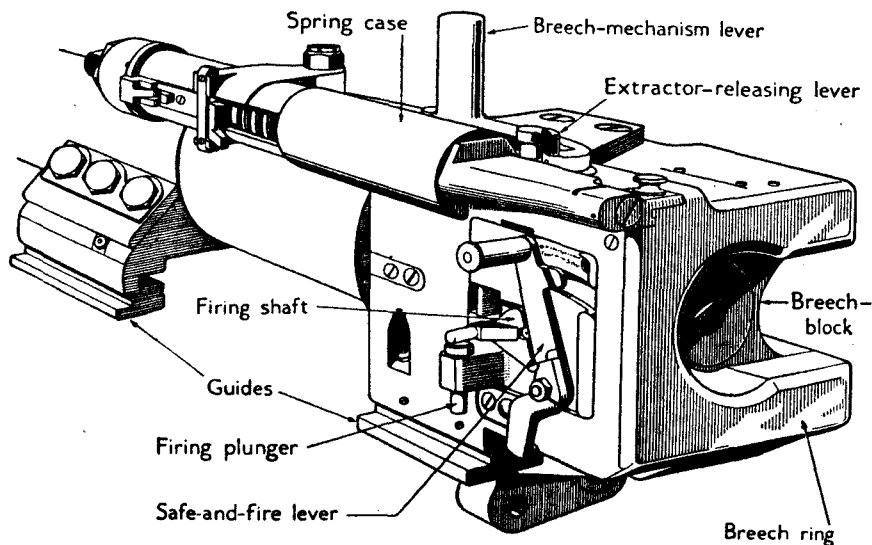

Figure 66.—Breech of 5-cm Pak.
(1) *Safety*.—There are three mechanical arrangements which operate as safety devices: (1) unless the breechblock is properly closed, the safety plunger will not enter its recess and the gun cannot be fired; (2) the safety plunger must be in its recess in the lower face of the breech ring before the firing shaft can be rotated; (3) the breech cannot be opened if the striker is not cocked, because the firing shaft is engaged with the safety plunger, which is in its recess.
(2) *To load and fire*.—To open the breech by hand, recock the firing mechanism by turning the safe-and-fire lever to *sicher* (“safe”) (fig. 66) and pushing it for-
(1) *Stripping*.—(a) *To disassemble the breech mechanism*.—Remove the securing pin from the spring case of the breech-mechanism lever (fig. 66), swing the case to the left and front, and remove the castellated nut and case complete.